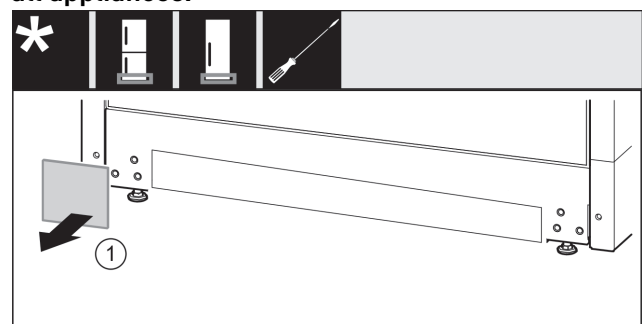

Fig. 15
- ▶ Remove the cover Fig. 15 (1).